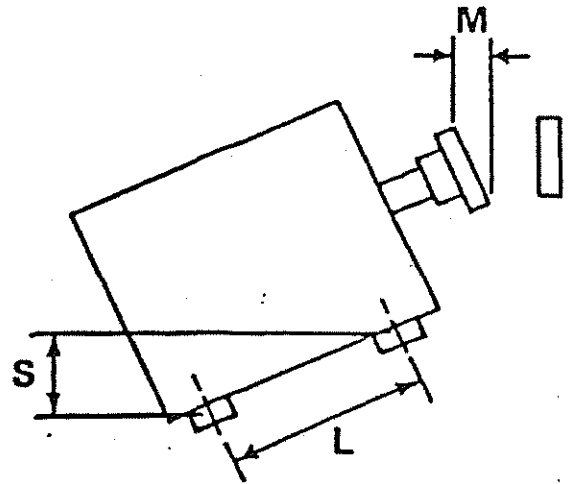

Figure 3-7
14. Calculate the distance to move the driver feet as follows: (Refer to Figure 3-7).